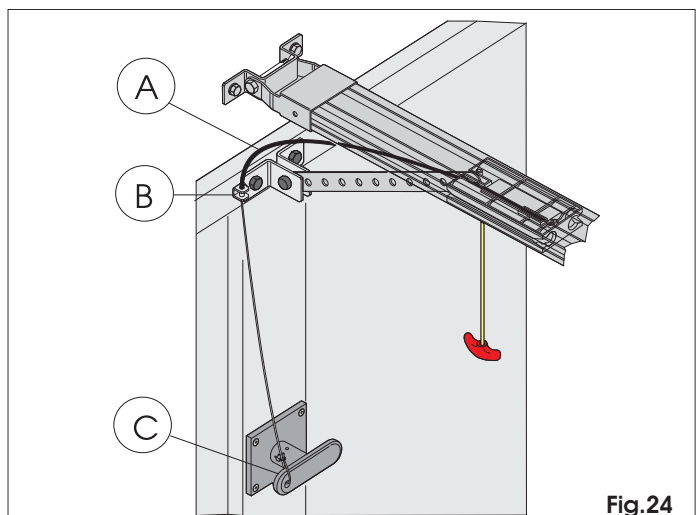

Fig.24
- 1) Cut the cable sheath to size (Fig. 24 ref. A).
- 2) Fit the cable inside the sheath and route it through the eyelet of the door fitting (Fig. 24 ref. B).
- 3) Cut the cable to size and assemble it together to the internal lever of the release handle (Fig. 24 ref. C).